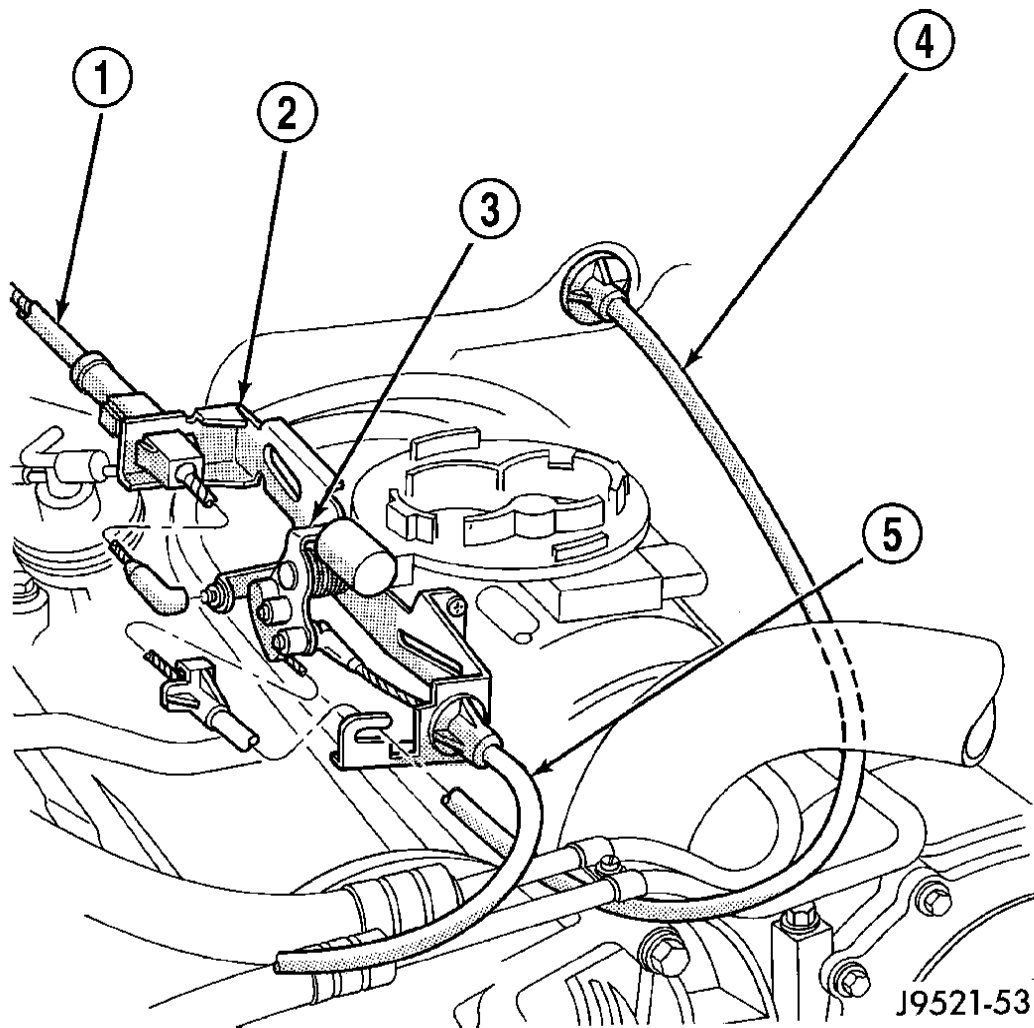

Fig. 230 Throttle Valve Cable Attachment - At Engine
3. Verify that lever on throttle body is at curb idle position (Fig. 230). Then verify that the transmission throttle lever (Fig. 231) is also at idle (fully forward) position.